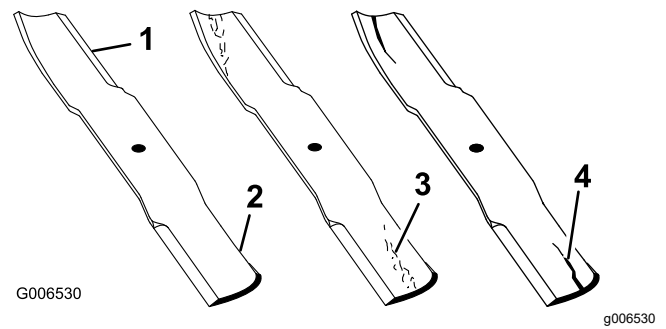

Figure 85
1. Inspect the cutting edges (Figure 85).
4. If you notice any cracks, wear, or a slot forming in this area, immediately install a new blade (Figure 85).